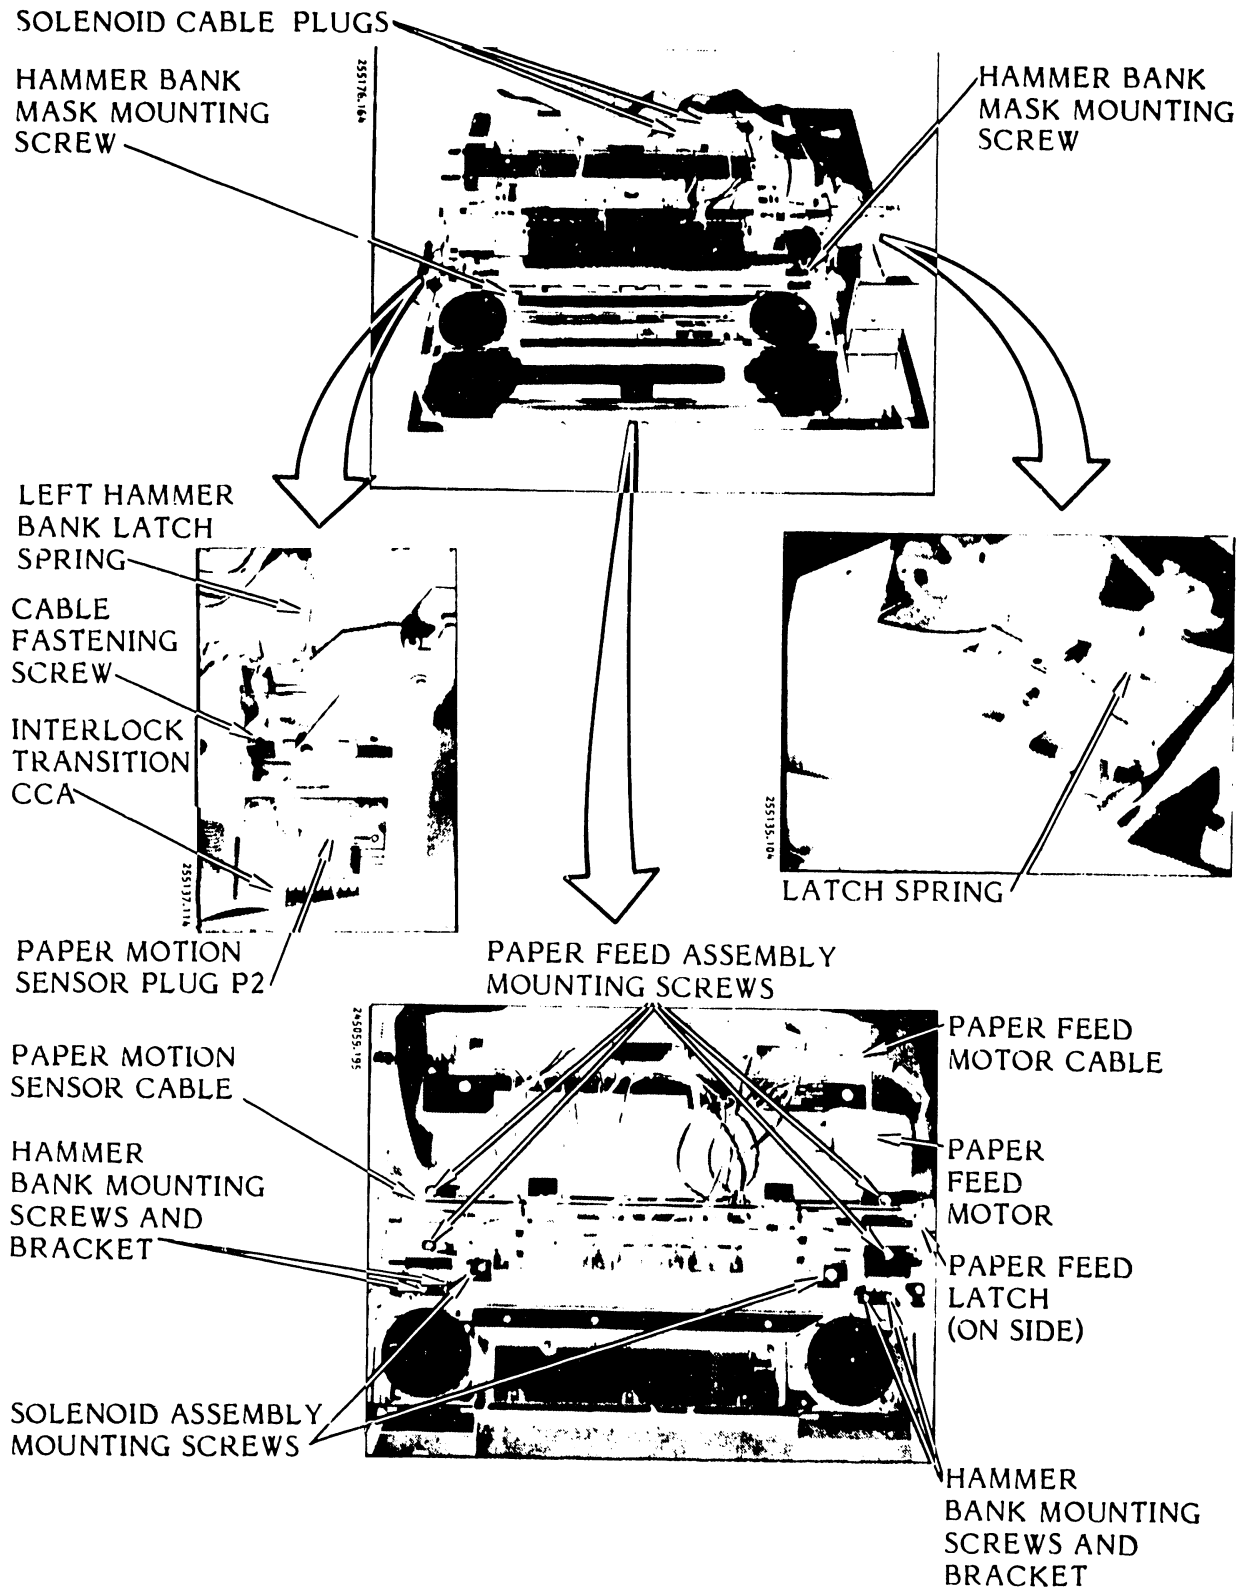

Figure 3-110. Paper Clamp Solenoid Assembly Removal/Installation
(Figure 3-110)
- d. Use an 8 mm nut driver to remove the two hammer bank mask mounting screws and remove the mask (see figure 3-110).